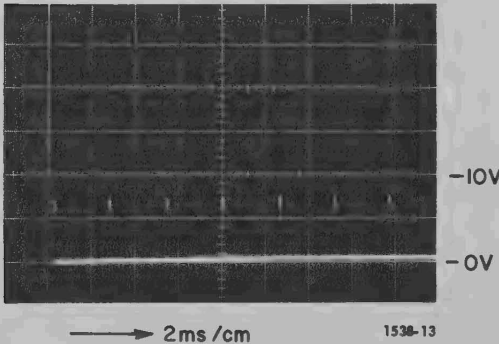

Figure 4-4. Voltage waveform at the panel OUTPUT jack (24,000 RPM).
(1) Set the RPM range switch to CAL and the dial to 3800 RPM. The CALIBRATE lamp should now operate with a pulsating glow. If it does, the trouble must be in the trigger generator (transistors Q505, Q506, Q901).
(2) If the CALIBRATE lamp is not operating, check the waveform at the panel OUTPUT jack (see Figure 4-4) or set the RPM controls to 150000 RPM and determine that some voltage is present at the jack; use the 3-volt ac range of a 5000 Ω/V multimeter. Correct waveform or voltage indicates trouble in the trigger generator (Q505, Q506, or Q901); an incorrect result indicates trouble in the oscillator section, Q101, Q102, Q103.
(c) If the CALIBRATE lamp is not operating (with a pulsating glow, step (b), above), check for proper waveform at the OUTPUT jack (see Figure 4-4); or set the RPM controls to 150,000 RPM and determine that some voltage at the jack is indicated on the 3-volt ac range of a 5000 Ω/V multimeter. Incorrect waveform or voltage indicates that the oscillator circuit (Q101, 102, 103) is not functioning properly.
c. Observe the waveform at the OUTPUT jack (see Figure 4-4). Unevenly spaced pulses indicate erratic operation of the oscillator section.